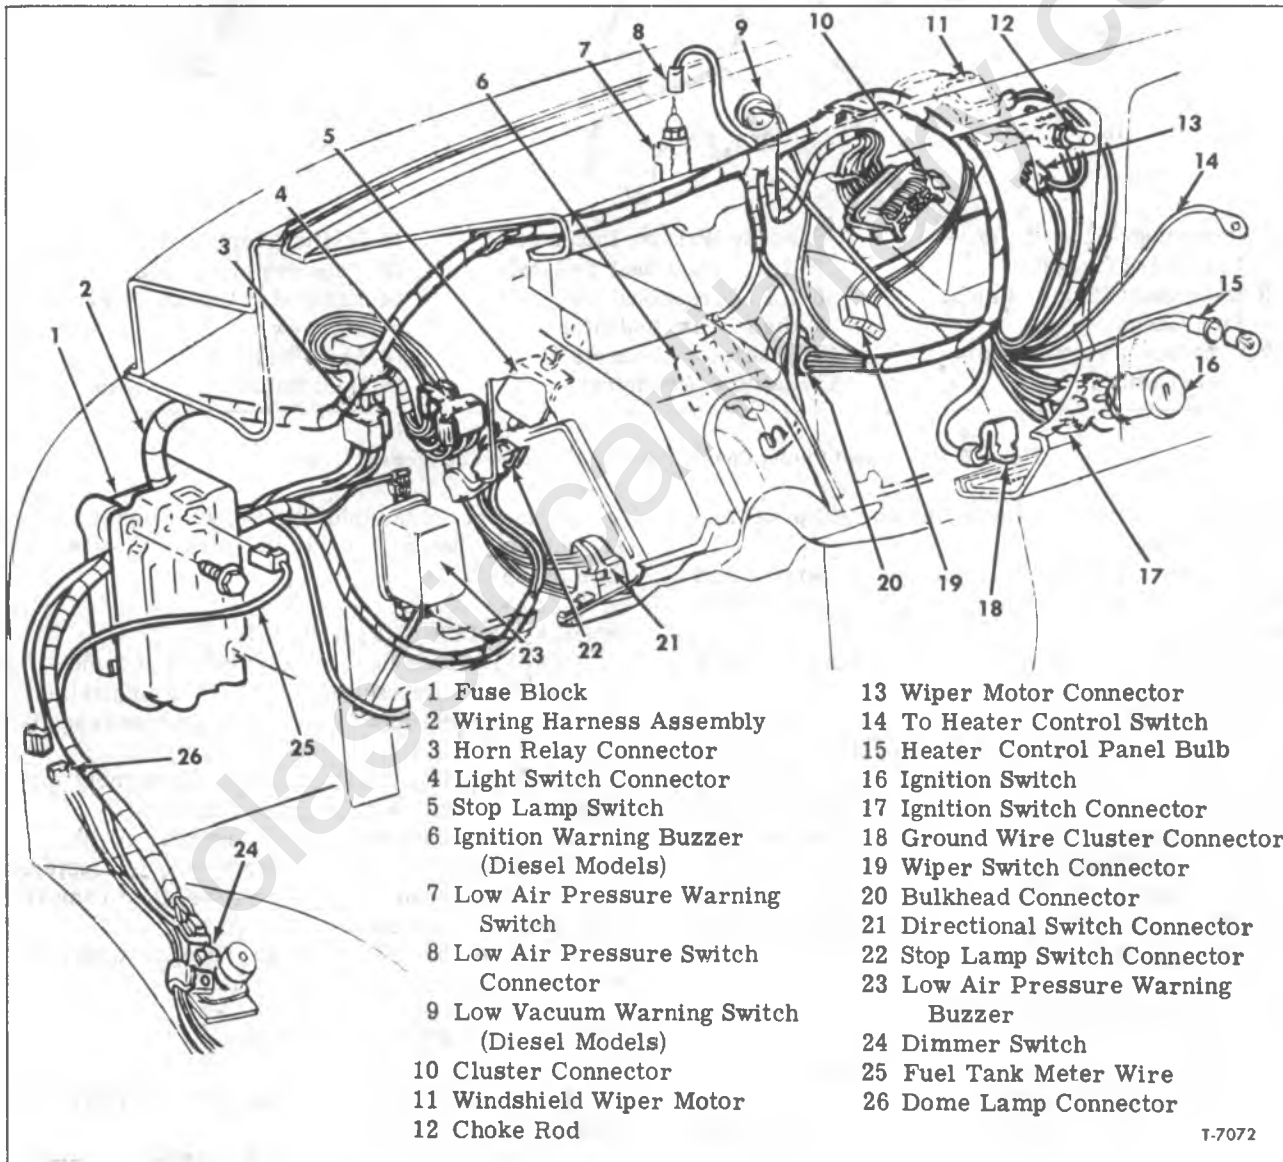

Figure 9—Instrument Panel Wiring (Conventional Cab Models) (Typical)
2. Disconnect speedometer drive cable and wiring harness connector at rear of instrument panel (fig. 9).
6. Referring to figure 9 for proper connections, connect speedometer drive cable and wiring harness connector at rear of instrument panel.